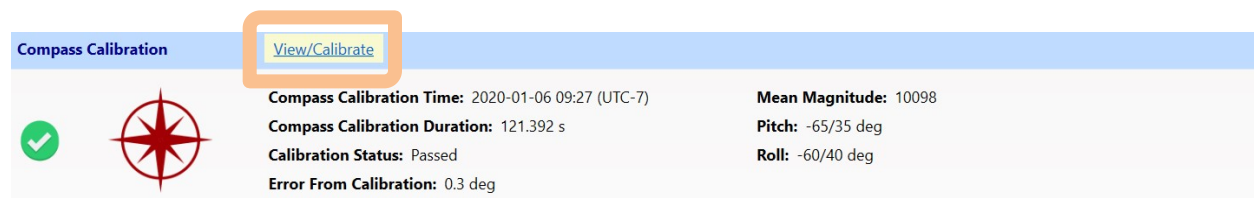
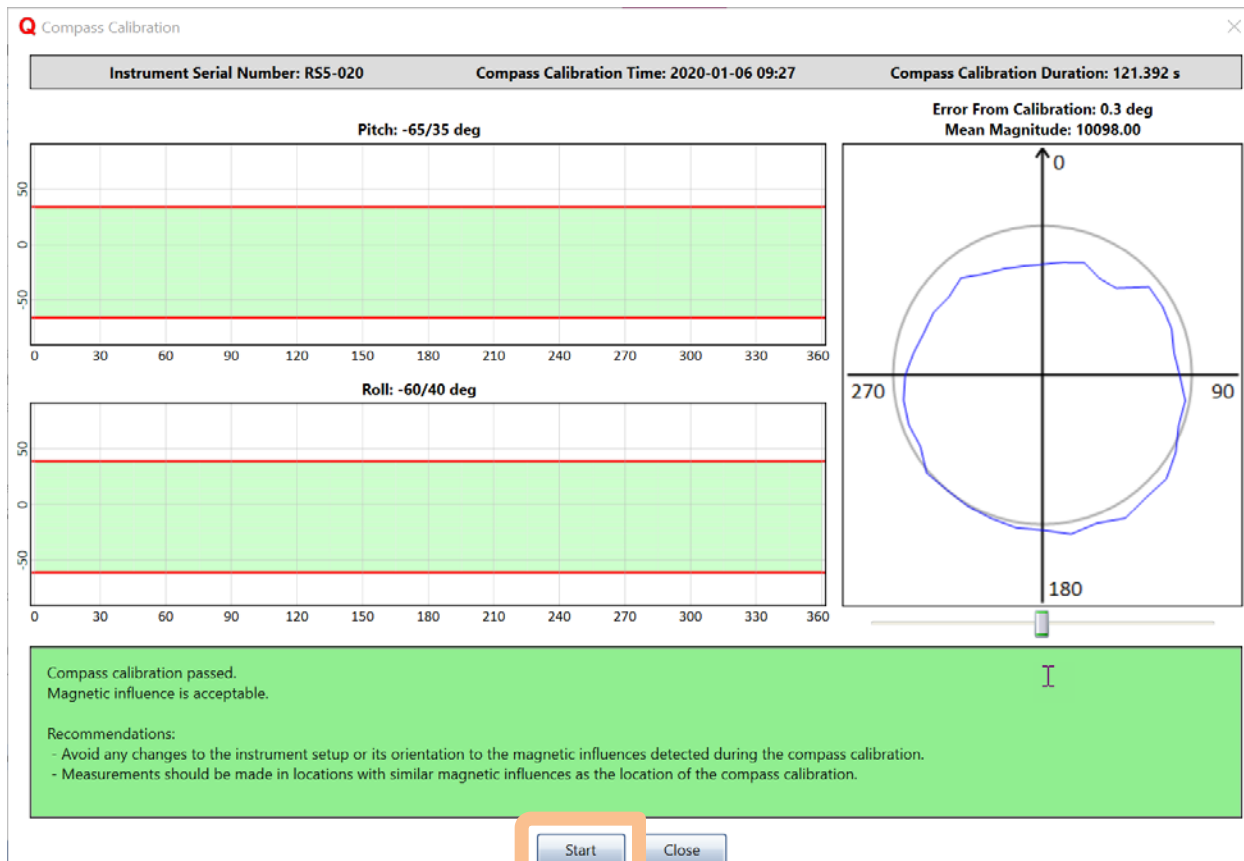
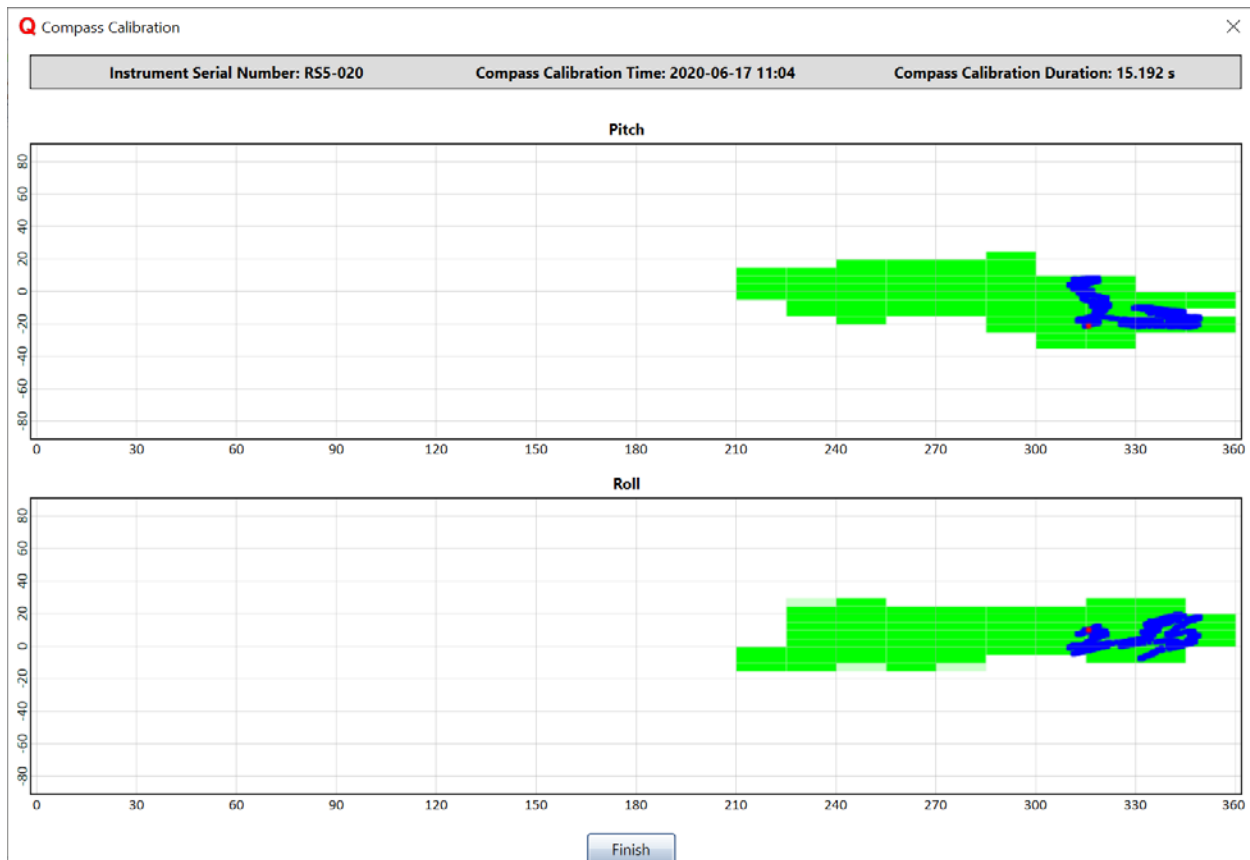

Figure 52. Compass Calibration
Figure 53. Compass Calibration Dialog
Figure 54. Compass Calibration Procedure
To begin a Compass Calibration, click the View/Calibrate link (highlighted in Figure 52) in the Compass Calibration section of the Smart Page. The Compass Calibration dialog will appear as shown in Figure 53. The results from the last good calibration will be displayed.
- To begin a Compass Calibration, press the Start button, highlighted in Figure 53. Once the calibration begins, the dialog will provide real-time feedback on the heading (x-axis), pitch, and roll, shown in Figure 54.
7. Once finished, the calibration results will be displayed. Figure 53 shows an example of a passed compass calibration, whereas Figure 55 shows an example of a failed compass calibration. If failed, the user has the option to choose to save the calibration to the system. Under normal circumstances, it is best to avoid saving a failed calibration to the system and to restart the calibration. Compass calibration failures can be caused by a variety of factors, and the following two parameters (both highlighted in Figure 55) can be used to diagnose the failure: